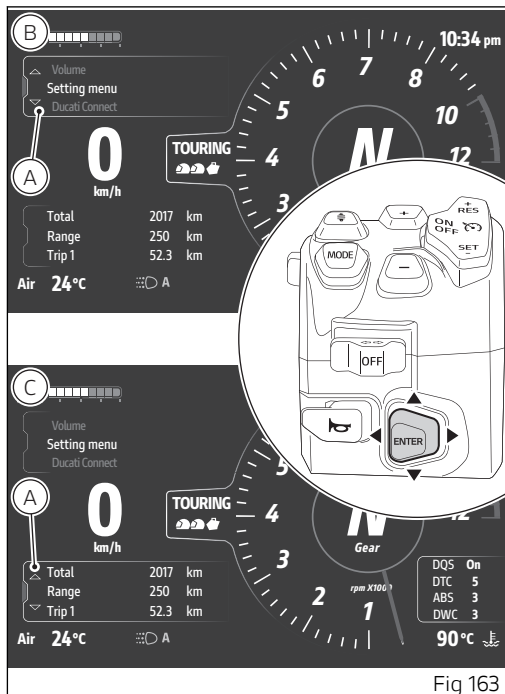

Fig 163
When one of the menus is selected, it is indicated with the active frame (A, Fig 163) and the joystick is used for menu navigation and interaction.
- if "Interactive menu" is currently selected, hold the joystick pressed in position ▼ for a long time to move the selection to "Info display" (C, Fig 163);
(B, Fig 163).